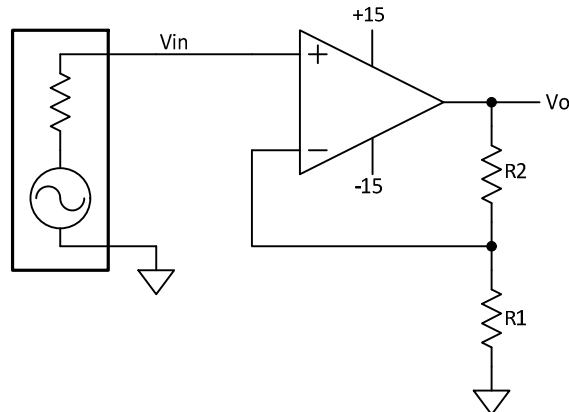

Figure 3: Non-inverting amplifier
- 2.0 Demonstration non-inverting amplifier.** Although the internal details of the op-amp are complicated, it is very simple to use the circuit to build an amplifier with very accurately known gain. For the circuit in Figure 3 the voltage gain is $1 + R_2/R_1 = 101$ with the components specified.
- 2.1** Connect the circuit in Figure 3 with $R_1 = 1K$, $R_2 = 100K$ and V_{in} is a 0.1 V_{pp} sine wave at 1 kHz.